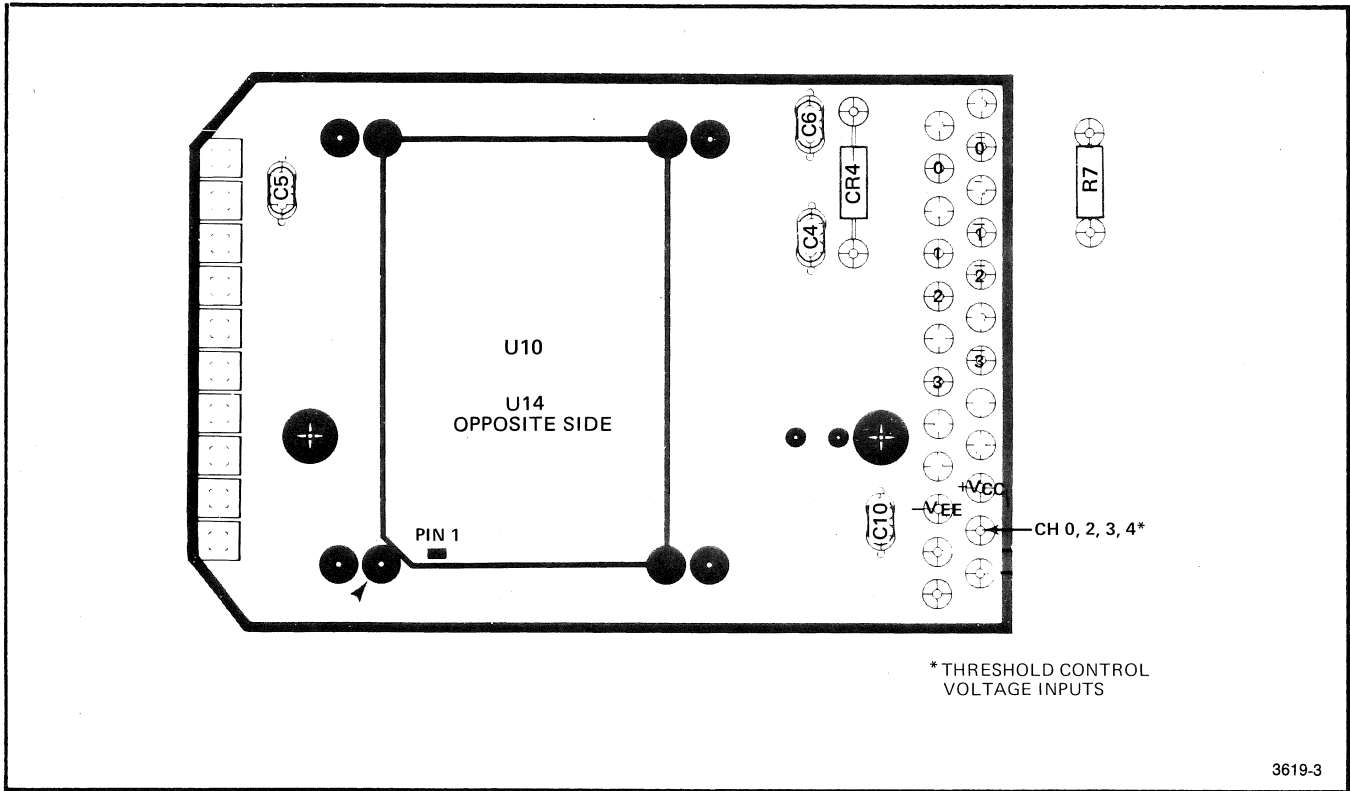
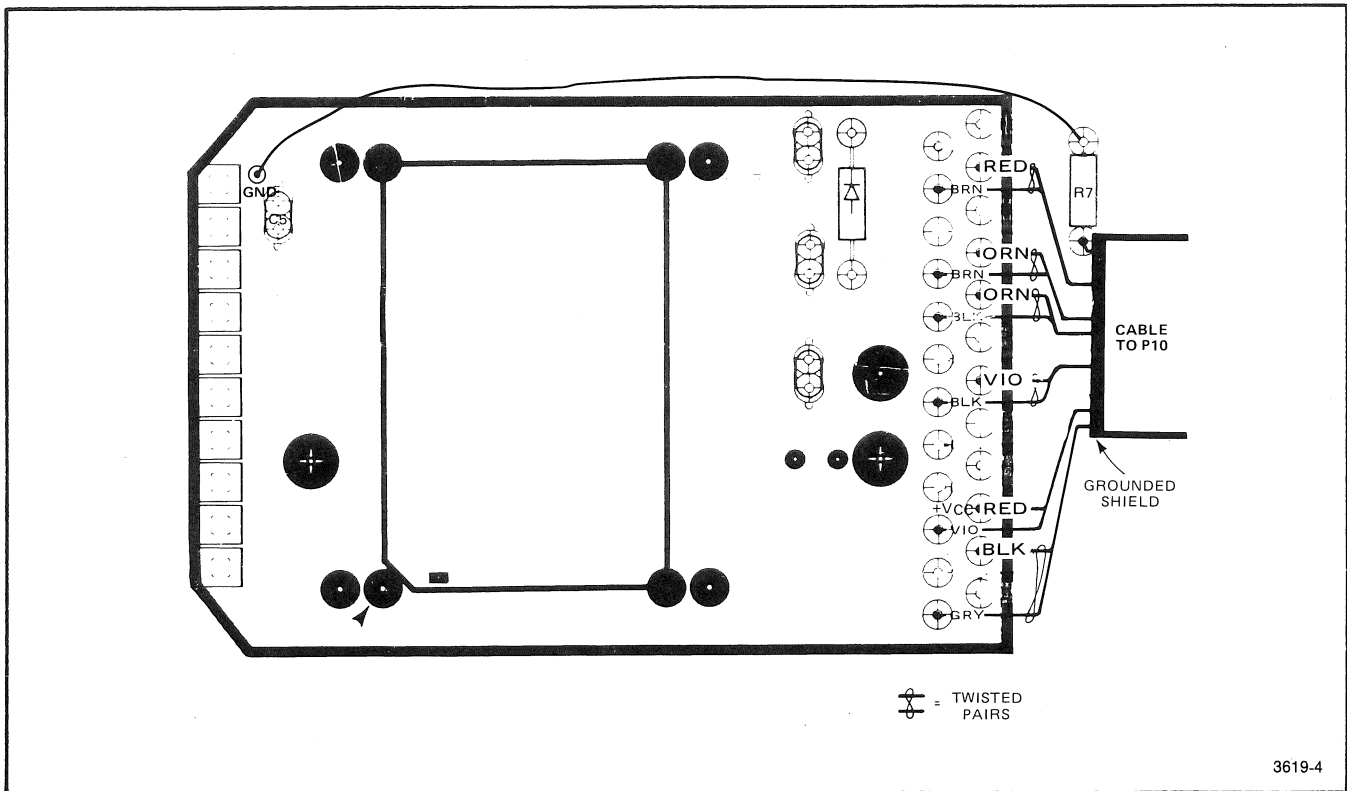

Figure 7. Component locations on the circuit board.
Figure 8. Probe head cable connections.
See Figure 7 for component locations on the circuit board; and see Figure 8 for probe head cable connections.
See Figure 8 for cable connections at the circuit board; and Figure 10 for output connector assignments.
**5. Replacement of Parts.** If one of the hybrid integrated circuits is defective, or if the circuit board is damaged, a wired circuit board with components is available. See the Replaceable Parts List for Tektronix part numbers of available components. Electrical replaceable components are called out by component number on Figure 7. The Replaceable Electrical Parts list contains reference to circuit numbers, and components are also called out by index numbers in the Replaceable Mechanical Parts list.